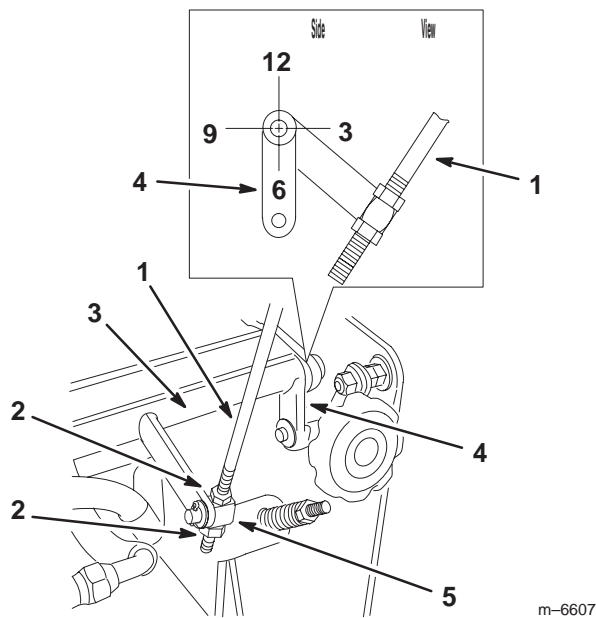

Figure 48
3. Check the orientation of the tabs on the ends of the speed control crank. These tabs should approximately be pointing straight down at the 6 o'clock position (Fig. 48).
4. If adjustment is needed, loosen the nuts on both sides of the swivel on the speed control rod (Fig. 48).
5. Adjust the swivel, until the tabs are at the 6 o'clock position (Fig. 48).
6. Tighten the nuts on both sides of the swivel (Fig. 48).